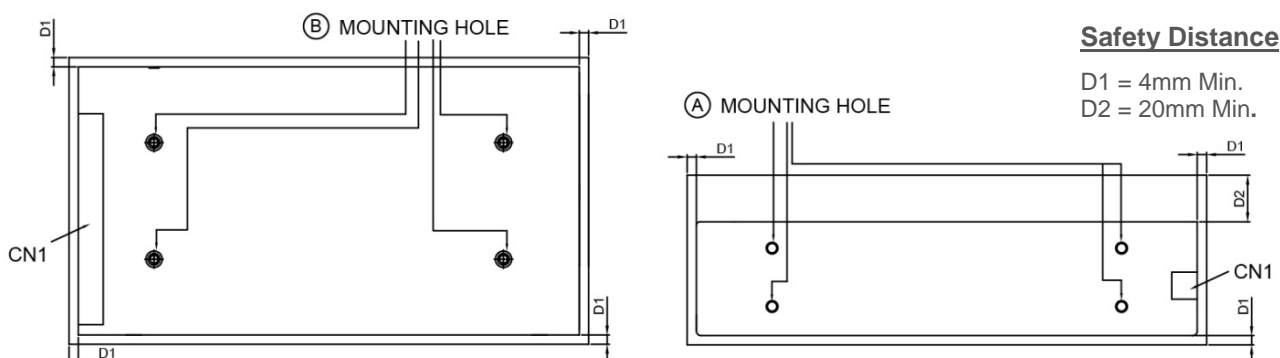

Fig. 3 Mounting Hole Locations and the Safety Distance
- Ⓐ Side Mounting: Fig. 2 and Fig. 3 show the mounting hole locations for power supply assembly onto a metal mounting surface. The power supply shall be mounted on minimum of 4 mounting holes using M4 screw maximum 5mm length (Refer to Fig. 4 on the next page). This is to maintain a safety distance between the screw and internal components.
- Ⓑ Base Mounting: Fig. 2 and Fig. 3 show the mounting hole locations for power supply assembly onto a metal mounting surface. The power supply shall be mounted on minimum of 4 mounting holes using M4 screw maximum 4mm length (Refer to Fig. 4 on the next page).